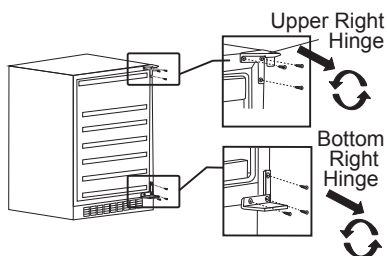

Figure 2
3. Unscrew the upper right hinge and bottom right hinge from the cabinet. (See Figure 2.) Save them for door re-installation.